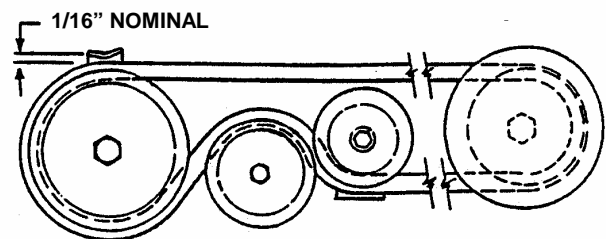

FIGURE 4.14
9. Route belt onto spindle pulley. Make sure belt is inside belt guide. See Figure 4.14.
11. Adjust belt guide. See Figure 4.14 for proper belt-to-belt guide clearances.